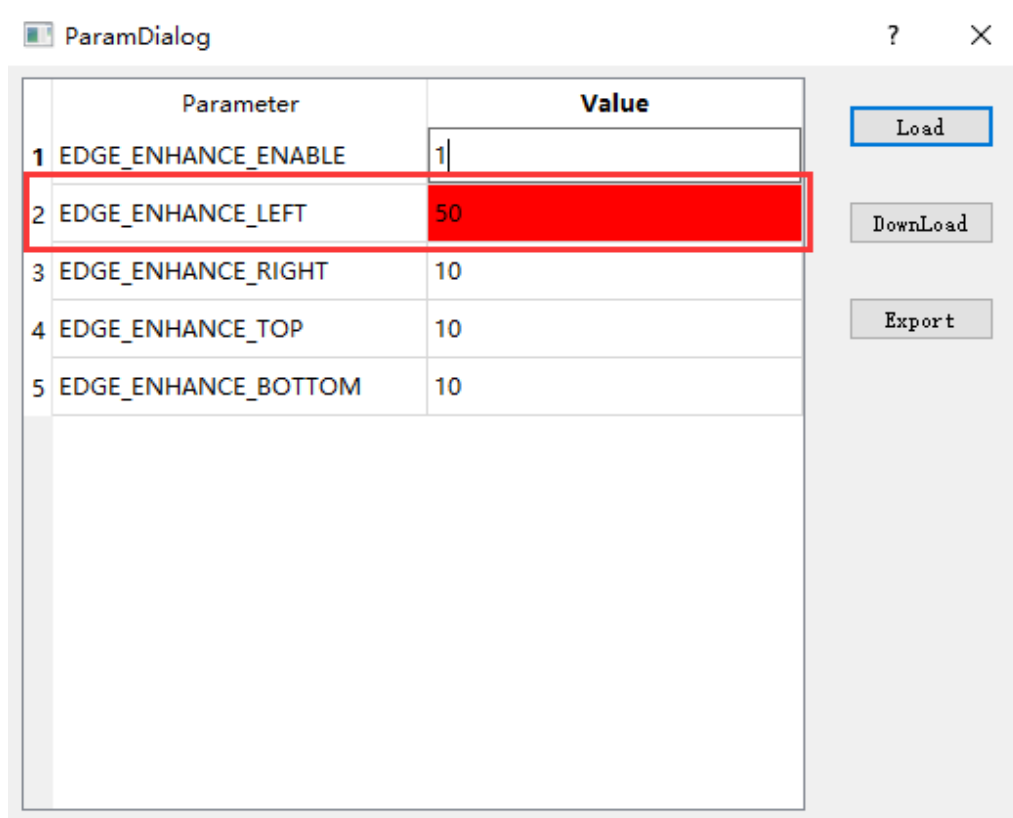

Figure 8. EDGE ENHANCE LEFT 50
(1) Fill in the adjusted value in the list, and it will be marked red after completion, as shown in figure 8.